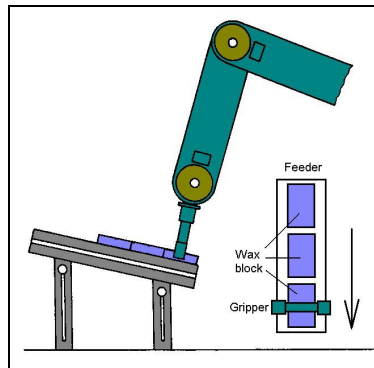

Figure 4-5
- 1 Make sure the parts feeder is loaded with blocks of wax, as shown in Figure 4-5.
- 4 Bring the open gripper towards the block of wax in the parts feeder, as shown in Figure 4-5.